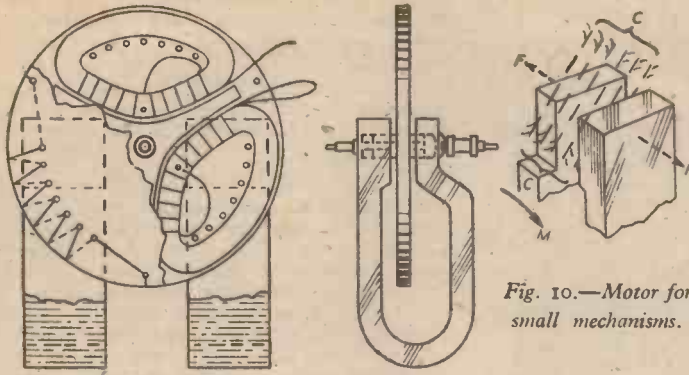

Fig. 10.—Motor for small mechanisms.
*hysteresis* losses. In addition to this, the armature coils are built up in a non-metallic casing (bakelite) so as to avoid *eddy current* losses as far as the armature itself is concerned. Such a motor is shown in Fig. 10. It has an armature 3½ in. in diameter, and its speed is about 275 r.p.m. and affords a liberal drive to a seconds house clock. A single dry cell maintains its action for a prolonged period, as the normal motor input is only about 1.5 milliwatts.
motor (such as Fig. 10) taking merely 1 m/a at 1.5 volts might have over 100 ohms armature resistance.